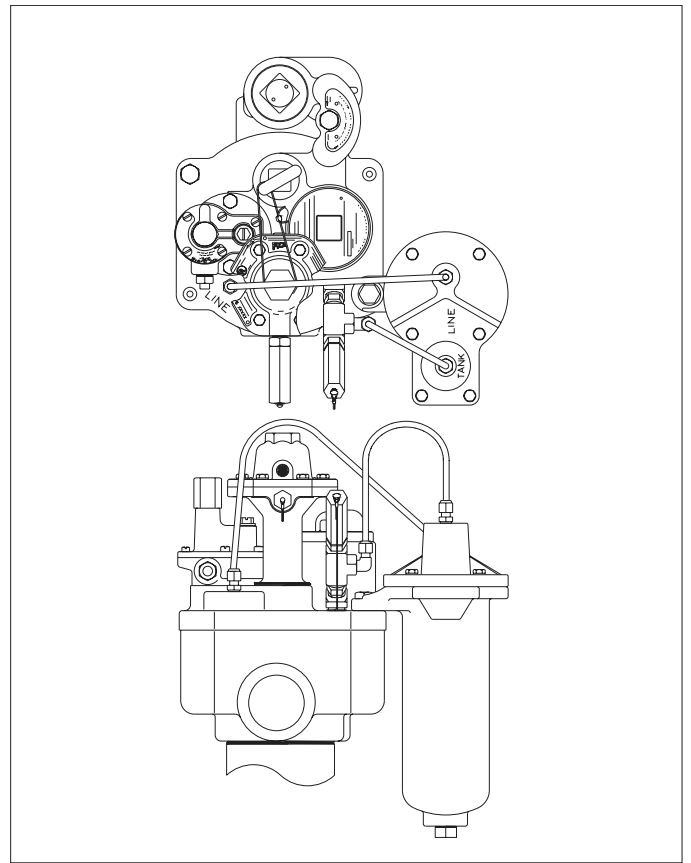

Figure 3
Apply U.L. classified non-toxic pipe thread sealant to the threads on one 90-degree elbow and install on the side of the female tee. Apply U.L. classified non-toxic pipe thread sealant to the 1/4-inch NPT threads of one Snap Tap and install into remaining opening of female tee, see figure 3.
- If using in conjunction with a FX2 or FX2D leak detector, install tubing as shown in figure 3.